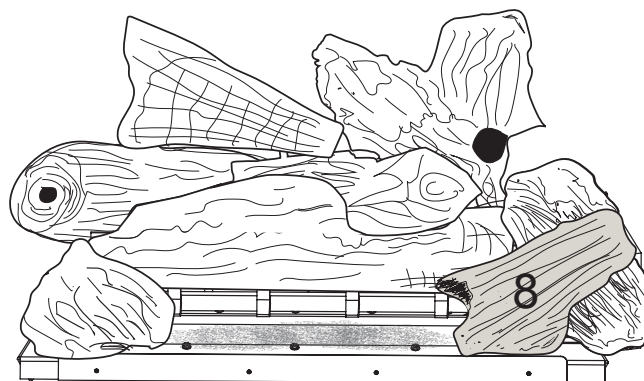

Figure 18 - Log #8 Log Placement
9. Hold log #8 with the wider end to the left. Place it against the first tine on the grate on the right and rest the pointed end over log #2. See Figure 18.